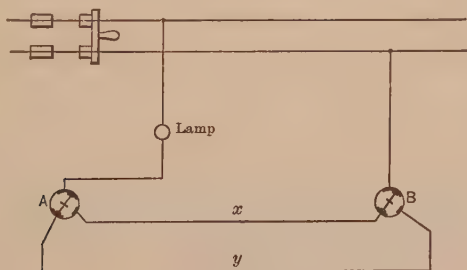

FIG. 213. The lamp may be turned off or on from either switch *A* or switch *B*.
If it is desired to turn a lamp on or off at one station, as at *A*, and also at another station *B*, regardless of how the switch is set at the other station, the wiring may be done as in Fig. 213.
**Prob. 18.** Draw the diagram of an arrangement for accomplishing the above result, except that instead of running the two extra wires, *x* and *y*, as in Fig. 213, use but one. Place the lamp in this wire, and use the same two 3-way snap switches. This method saves wire if the switches are placed near the main circuit.